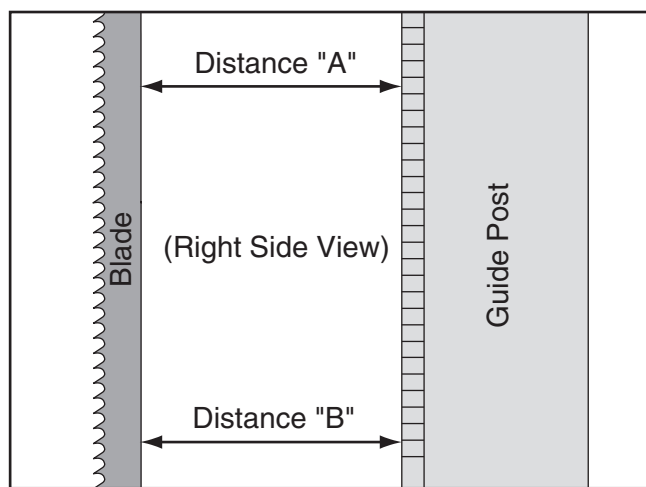

Figure 102. Example of measuring distance between rack and blade at top of guide post.
4. Measure the distance "A" between the upper front face of the guide post rack and the back of the blade (see **Figure 102**).
5. Measure the distance "B" between the bottom front face of the guide post rack and the back of the blade (see **Figure 102**).